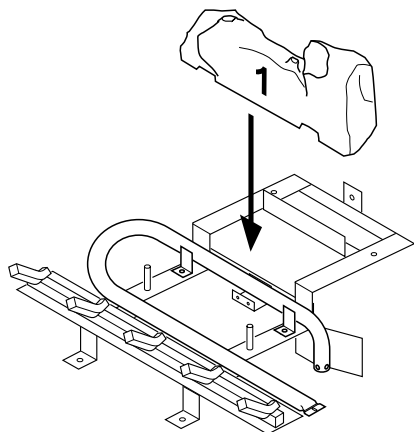

Figure 53 - Installing Log No. 1
2. Place log #1 (back log) on top of grate. Make sure the notches in the bottom of the log fit over the grate (see Figure 53).